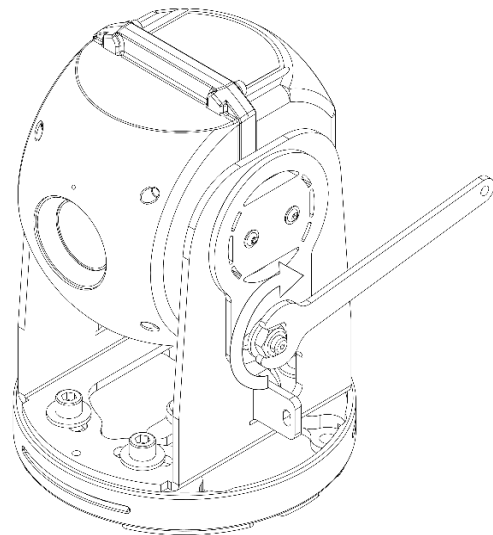

Figure 14: Tightening TILT Base Nuts
2. Lock the position by tightening the locking-nuts at both sides of the camera body. See Figure 14.